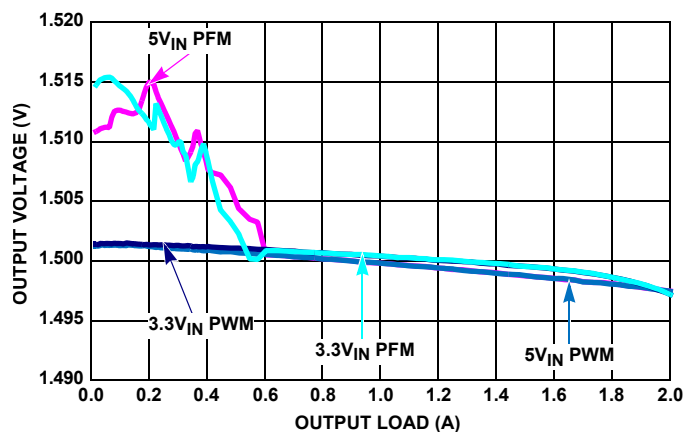

FIGURE 10. V_{OUT} REGULATION vs LOAD, $f_{SW} = 2\text{MHz}$, $V_{OUT} = 1.5\text{V}$,
- Not tested in production. Characterized using evaluation board. Refer to Figures 10 through 12 load regulation diagrams. $T_A +105^{\circ}\text{C}$ represents near worst case operating point.